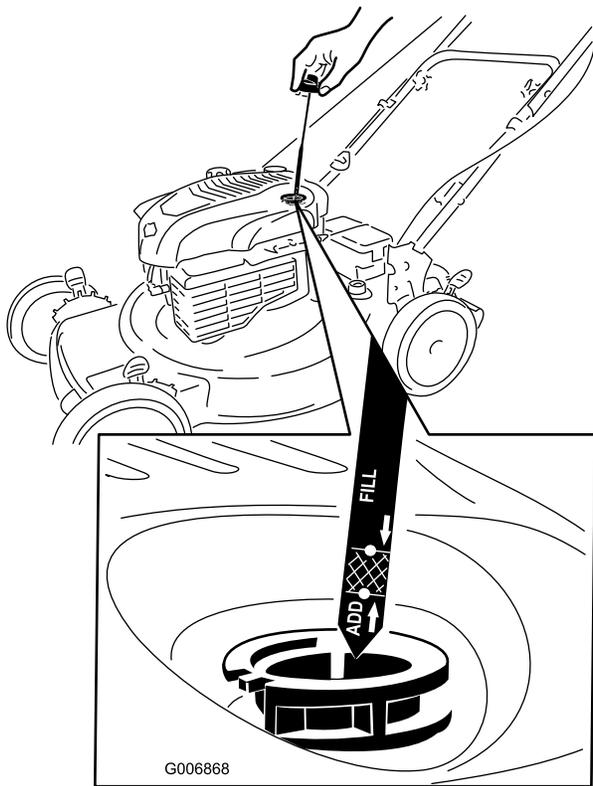

Figure 26
2. Remove the dipstick (Figure 26).
4. **Slowly** pour oil into the oil fill tube until the oil level reaches the **Full** line on the dipstick (Figure 26). **Do not overfill.** (Max. fill: 20 oz. (0.59 l), type: SAE 30W detergent oil with an API service classification of SF, SG, SH, SJ, SL, or higher.)